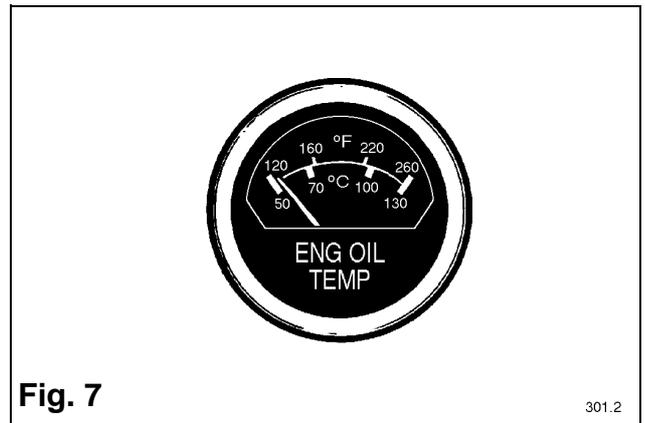

Fig. 7
**Engine oil temperature gauge (Fahrenheit/Centigrade) Fig. 7**